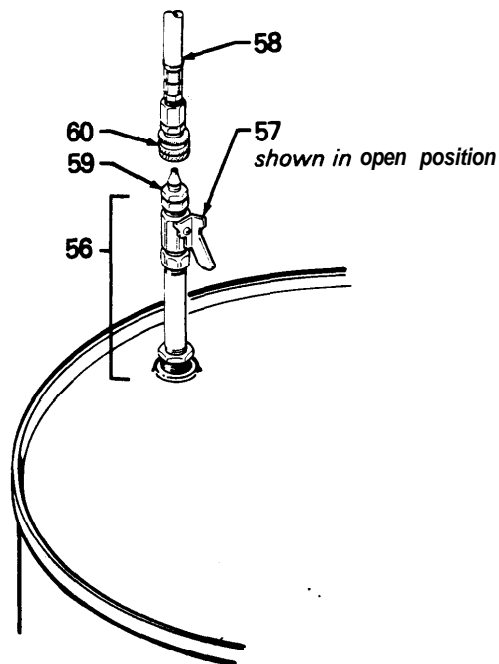

Fig 14
17. Install the Air Dryer drum fittings (56) in the 3/4 in. vent port of the corresponding drum of fluid. Close the shutoff valve (57) and connect the corresponding dry air hoses (58). Use only the special pin fitting (59) and coupler (60) to connect the dry air hoses to the drum fittings. Do not use additional lengths of dry air hose. See Fig 14.